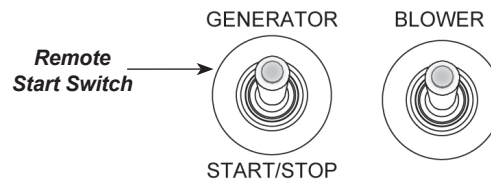

Figure H36: Remote Generator & Blower Switches-“ON”
7. Start the generator using the remote generator start switch on the 240V AC cabin panel. See Figure H36.